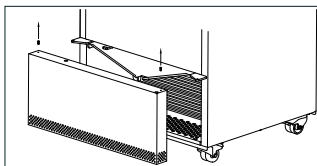
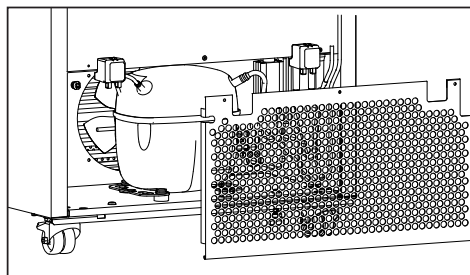

fig. 9
fig. 11
2. Remove the lower panel from beneath the door by loosening the two screws. Use a 2mm Hexagon key. See fig 9
The ventilation grille, the condenser, the compressor and the compressor compartment must also be kept free of dust and dirt. Clean it with a vacuum cleaner regularly. Remove the lower panel from beneath the door by loosening the two screws (see fig 9) Do the same on the back (see fig. 11)